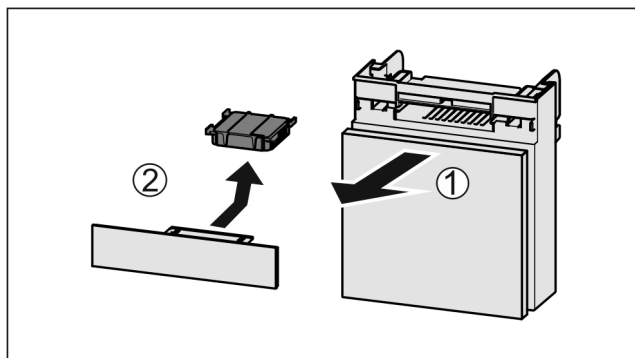

Fig. 44
- Pull out the compartment Fig. 44 (1).
- Remove the carbon filter Fig. 44 (2).